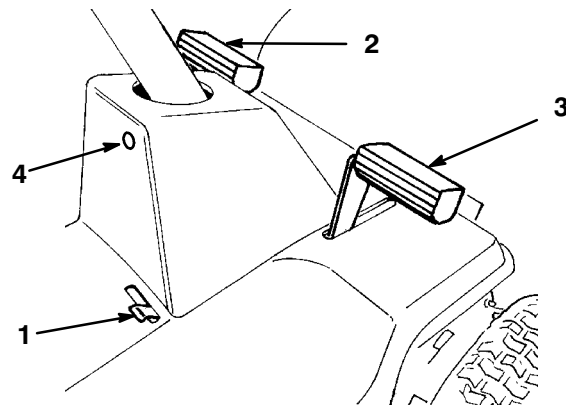

Figure 8
The clutch pedal (Fig. 8) is used in conjunction with the gear shift. Depress the clutch pedal fully when shifting gears and whenever the brake is used.
The brake pedal (Fig. 8) must be depressed to slow down or stop the tractor. When the pedal is depressed, a caliper engages the brake disc at the side of the transaxle. Remember to depress the clutch pedal whenever the brake is used.
The parking brake (Fig. 8) must be used in conjunction with the brake pedal. When the pedal is depressed, the end of the parking brake lever holds the brake pedal in the depressed position and a caliper engages the brake disc at the side of the transaxle.
2. Move the parking brake control (Fig. 8) sideward and release the brake pedal.